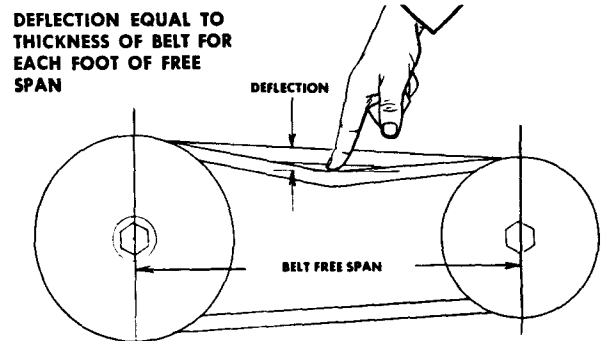

Fig. 5-24. Checking belt tension manually
2. If belt tension gauge is not available, tighten belts so that the pressure of the index finger will depress belt as shown in Table 5-5. The index finger should be extended straight down from the hand; in this manner, force will be approximately 13 pounds. Fig. 5-24.